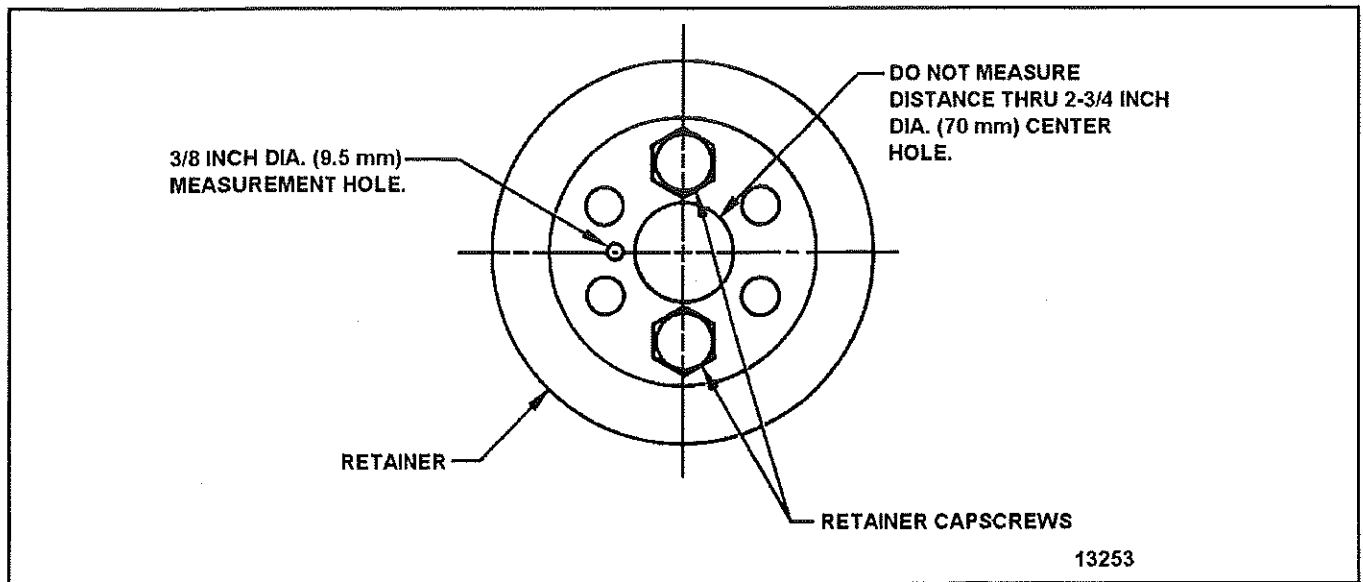

FIGURE 3 - FRONT WHEEL BEARING RETAINERS
12. Remove the retaining capscrews as indicated in Figure 3.